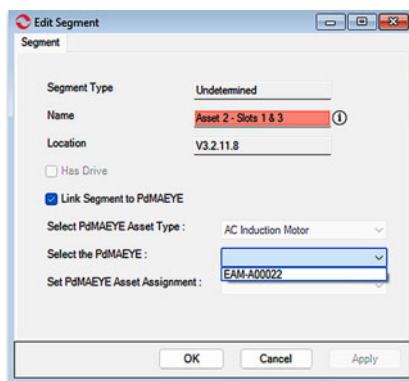

**Figure 56: Set PdMAEYE Asset Assignment**
- Click on the Set PdMAEYE Asset Assignment. You should see a list (1, 2, 3) (Figure 56).